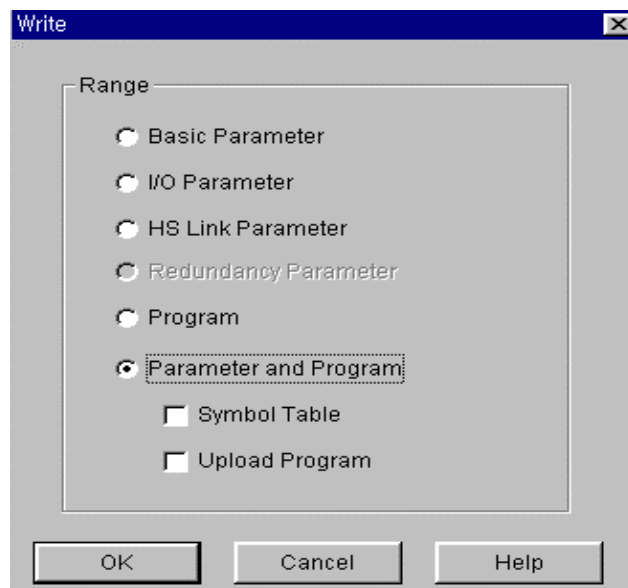

Fig. 6.2.5(A) Screen of parameter download
If *high speed link* parameter prepared by user is stored to project file of GMWIN, and the writing is selected after connection with PLC through the on-line connecting of GMWIN basic menu, the writing window in Fig. 6.2.5(A) is opened. If *high speed link* parameter or parameter and program is selected in figure, and parameter downloading is performed, the appropriate contents is downloaded.